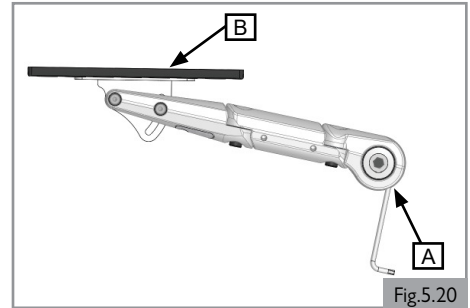
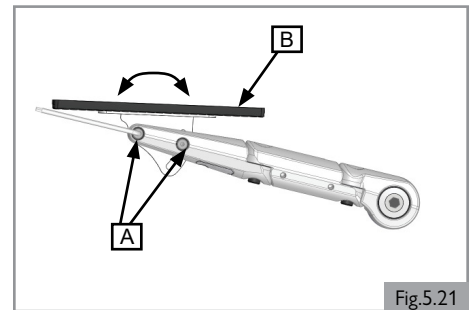

Fig.5.20
Fig.5.21
Part 1 (Fig. 5.20)
Part 2 (Fig. 5.21)
2. Loosen (A) in order to adjust (B).
3. Retighten screws (A-Fig. 5.20 and A-Fig. 5.21). See section 9 for specified torque values.